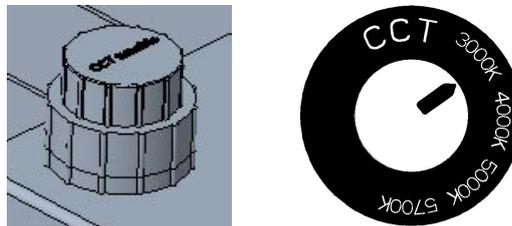

Fig. 1
1. If the luminaire is designed to be CCT tunable. Please screw the knob cap to select the corresponding CCT, as shown in Fig. 1, screw the knob cap after using the CCT selectable function.